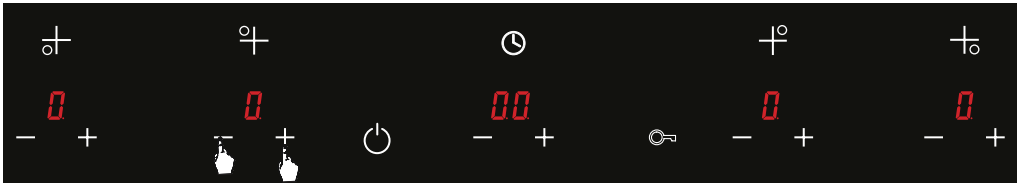

Figure 48
4. You may turn off the hob by pressing the + and - keys of the relevant hob for 5 seconds simultaneously. The 0 symbol shall be displayed on the screen. (See Fig. 48)